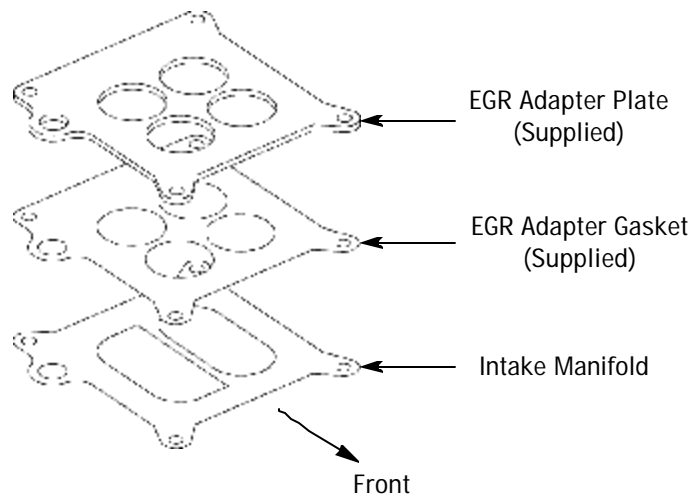

Figure 2 - EGR Adapter Plate Installation (3766 Intake Manifold)
- 1 - Steel EGR Spacer Adapter Plate (See Figure 2)
- 1 - EGR Adapter Plate Gasket (See Figure 2)